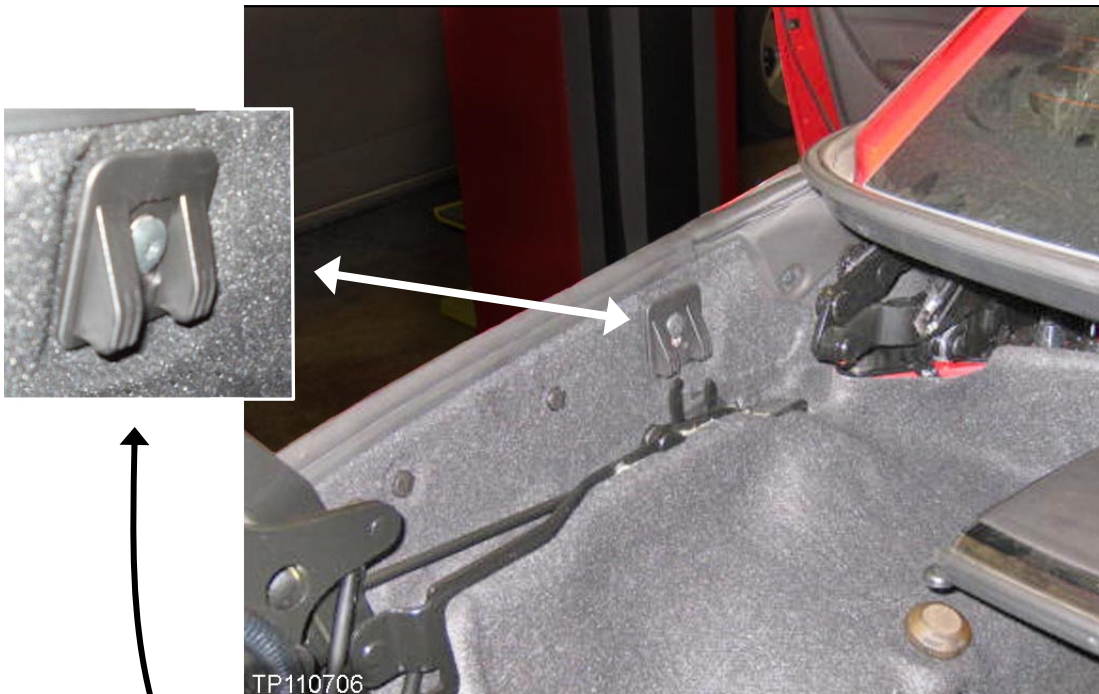

Figure 39f
39. Next, adjust the side wedges of the vehicle's trunk as shown in Figure 39f and 40f.